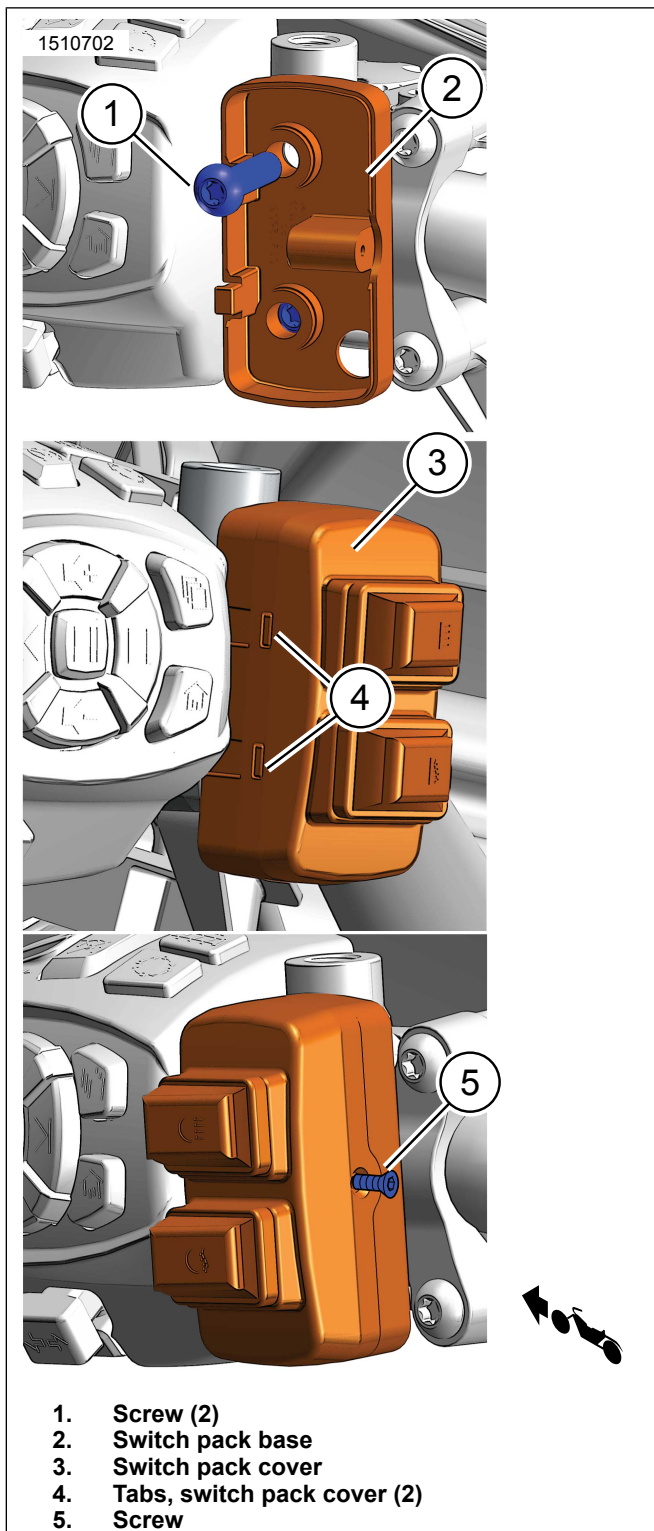

Figure 3. Switch Pack Install (Pan America shown)
3. See Figure 3. Install switch pack base (2) over clutch clamp.